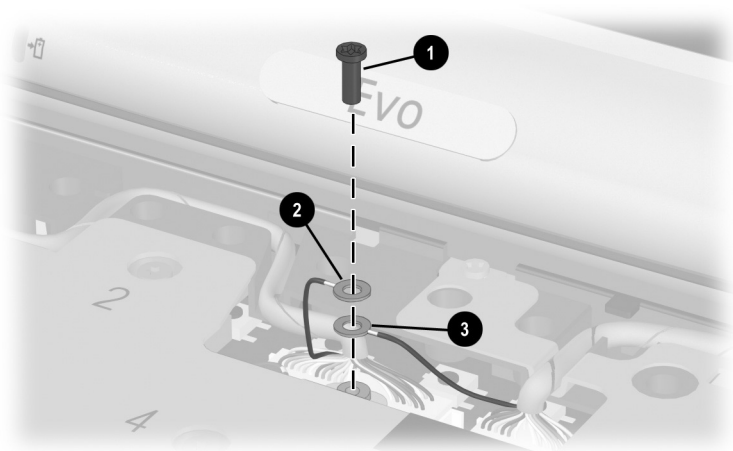

Figure 5-21. Removing the Display Ground Cable Screw
9. Remove the pewter TM2.0 × 7.5 screw ❶ that secures the display backlight ❷ and display video ground cables ❸ to the heat spreader (Figure 5-21).